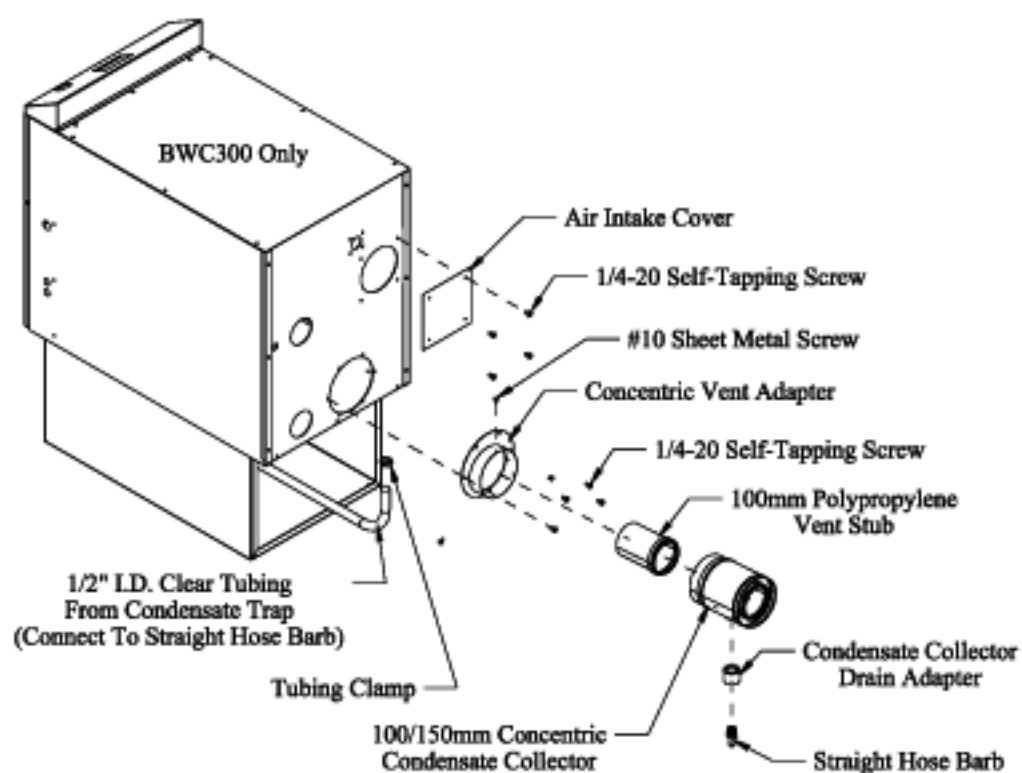

FIGURE 6.12: CONCENTRIC VENT ADAPTER ASSEMBLY (VENT OPTIONS 4&10)
- a) Start assembly of the Concentric Vent Adapter Kit by attaching the rubber gasket and concentric vent adapter to the vent opening found on the rear jacket panel with (4) 1/4-20 x 1/2" self tapping screws. (See Fig. 6.12)
- c) Insert the 100/150 concentric condensate collector into the 100mm polypropylene vent stub and the concentric vent adapter until the bead on the collector bottoms out on the concentric vent adapter. Turn the condensate collector so that the threaded stub faces the floor. Attach the condensate collector to the concentric vent adapter with (3) #10 x 1/2" sheet metal screws in the holes provided on the concentric vent adapter.
- g) Install the cover plate shown in Figure 6.12 on the rear of the boiler using the 1/4-20 self tapping screws provided.